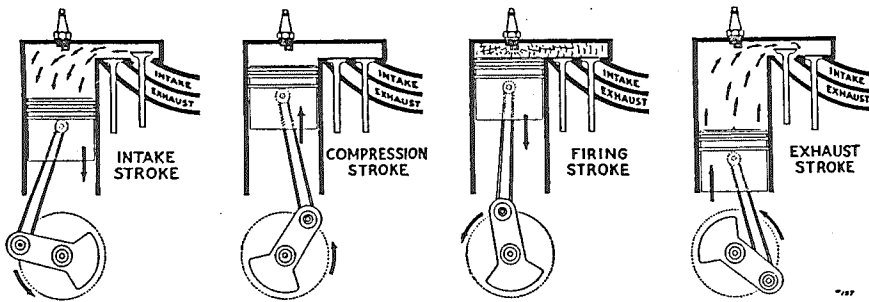

Fig. 5.
35. In our 4-cycle motor the events are illustrated in Fig. 5. On the intake stroke (illustration at the left), we have the piston going down, producing a vacuum in the cylinder, thereby drawing fuel up through the carburetor so that the space above the piston becomes filled with combustible gas. During this stroke the intake valve is open. In the next illustration we find the piston coming up on the compression stroke with both valves closed. At the top of the compression stroke a spark occurs at the spark plug, firing the gas. This produces an explosion above the piston which forces it down on the firing stroke. Both valves are closed on the firing stroke. On the next upstroke of the piston, with the exhaust valve open, the burned gas is driven out.